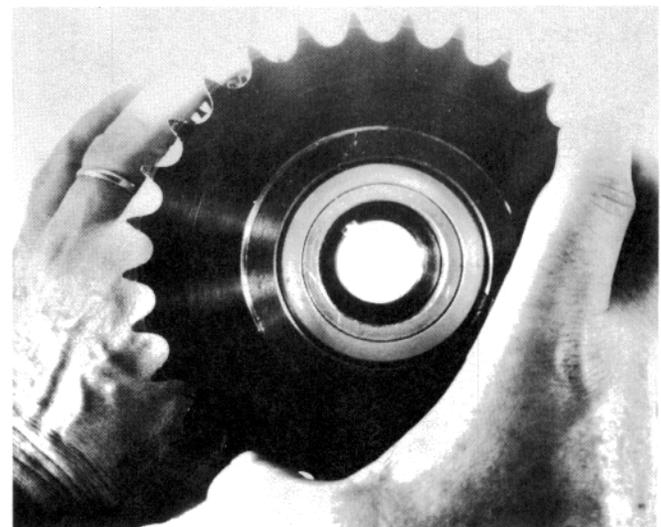

Figure 54 – Cocking Clutch Sprocket and Cocking Clutch Gear Separation
3.1.2 To remove the sprocket, set gear down on a flat surface and grasp the clutch sleeve and sprocket as in Figure 54. Now with the left hand rotating counterclockwise and downward, use the right hand on the sprocket to pull up with a slight clockwise motion. **Note:** A burr may be left from removing the snap ring. It may help to remove the burr before disassembly.